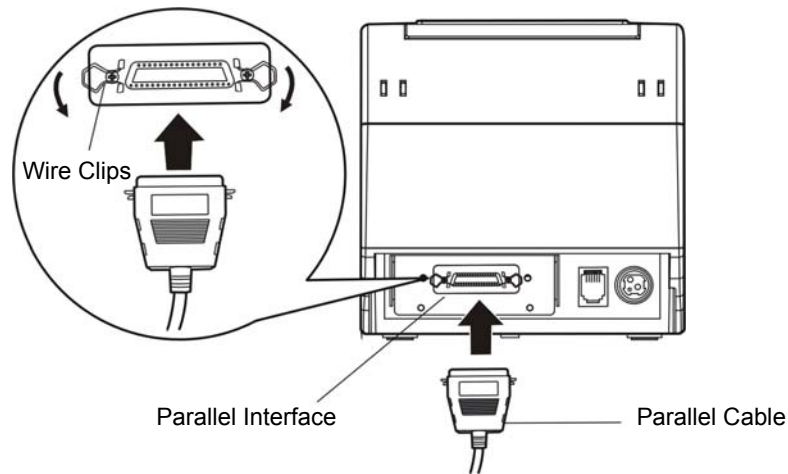

Fig 2-2 Connecting the parallel interface cable
1. Make sure the host and the printer are both turned off, connect the parallel interface cable to the connector on the rear panel of the printer, fasten the wire clips as shown in Fig 2-2.